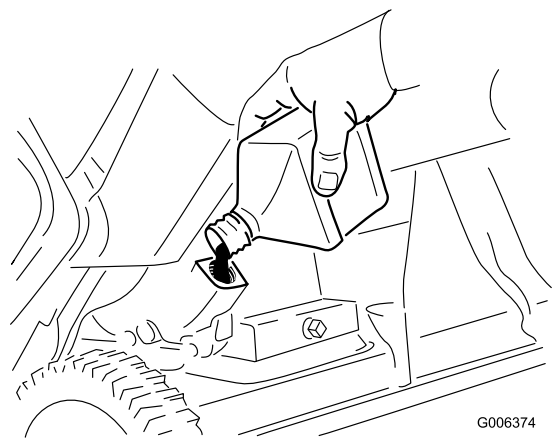

Figure 32
8. With the machine in the operating position, **carefully** pour oil into the oil fill hole. Allow a minute for the oil to settle and add enough to bring it to the point of overflow. There should be very little, if any, oil left in the bottle (Figure 32).